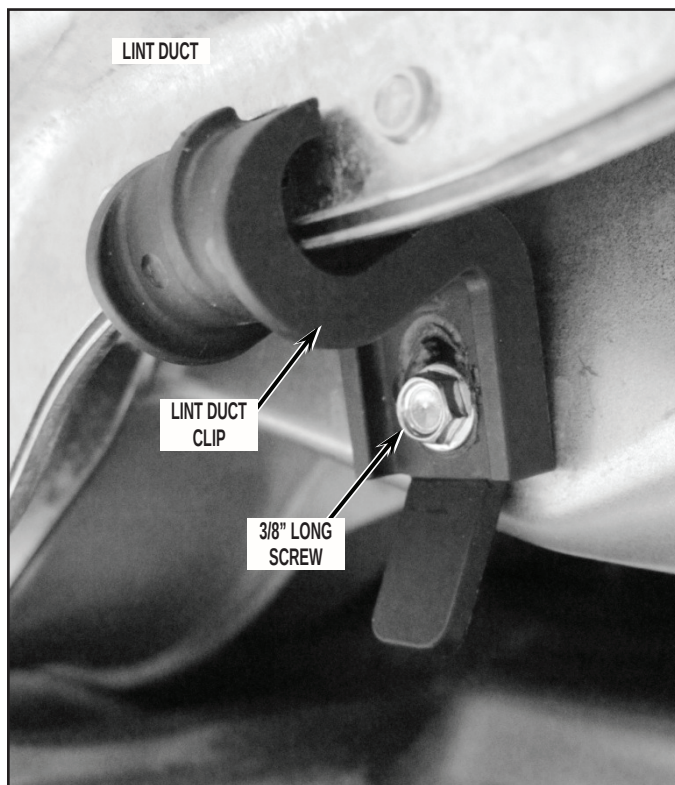

FIGURE 39
8. When reattaching the blower housing lint duct and its screws, see *Figure 11*, verify the lower plastic lint duct clip is hooking the lint duct correctly. See *Figure 39*.